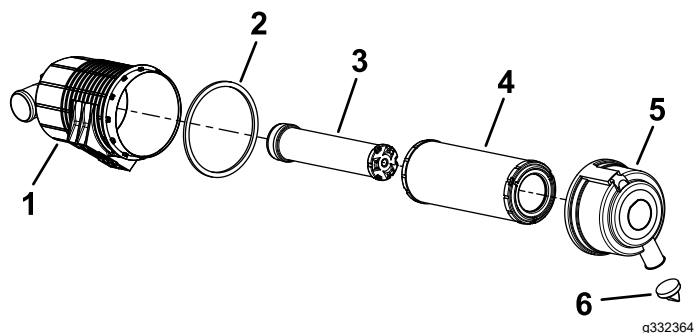

Figure 41
5. Service the air-cleaner filter and safety element when alerted (Figure 41).